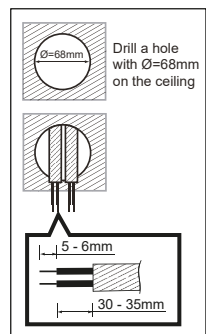

Figure 9
1. To install the detector, please drill a hole with diameter of 68mm on ceiling board and keep the KNX bus cable outside. Please strip off 5 - 6mm of cable sheathing for wiring (Fig. 9).